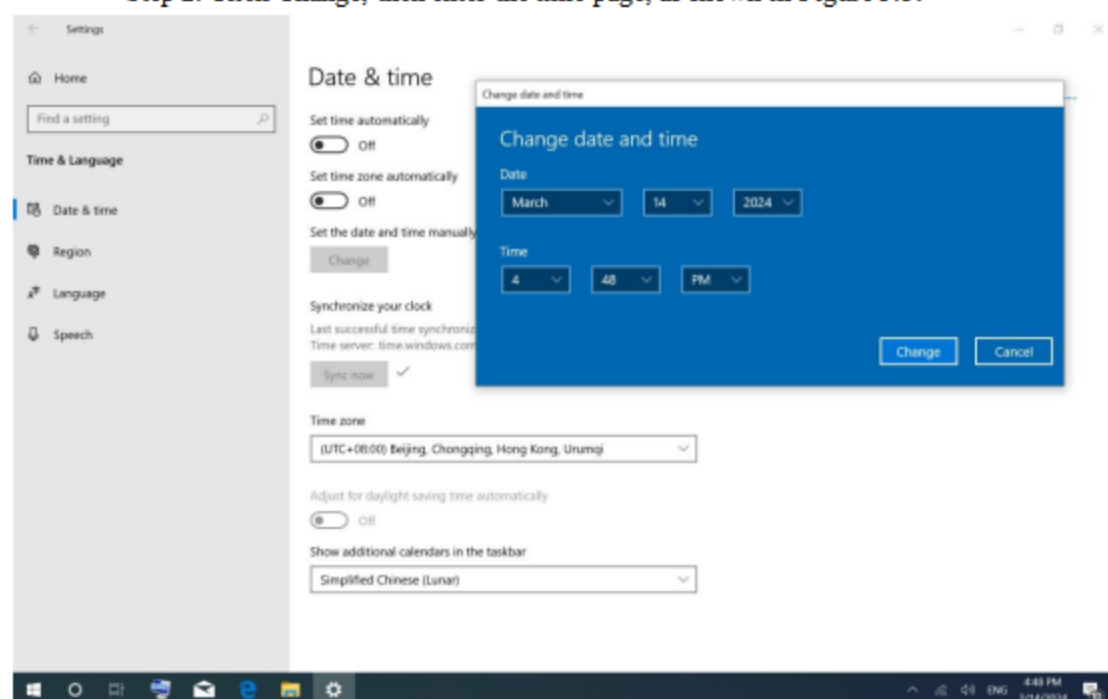

Figure 3.5 Date / Time Properties dialog box (Set Time Property page)
Step 2. Click Change, then enter the time page, as shown in Figure 3.5: